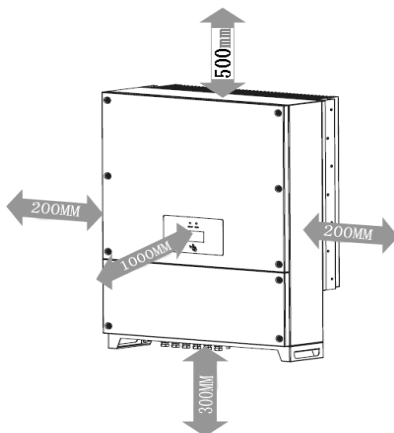

Fig. 4 Minimum clearance
- In order to maintain sufficient ventilation and service access, a clearance between the inverter and surrounding objects should be observed as following (as shown in Figure 4) :  $\geq 200\text{mm}$  at the sides;  $\geq 500\text{mm}$  at the top;  $\geq 300\text{mm}$  at the underside;  $\geq 1000\text{mm}$  from the front.